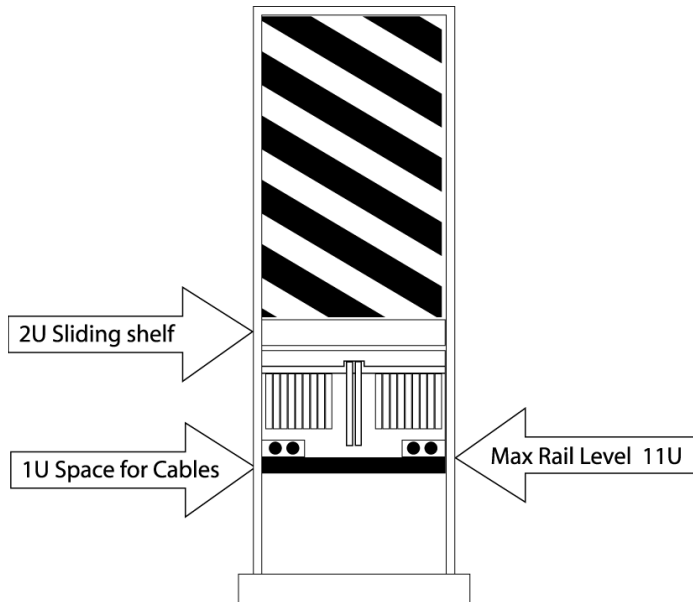

Figure 17 Rail tray mounting location requirement
2. Determine the mounting location for the rail tray (Figure 17).